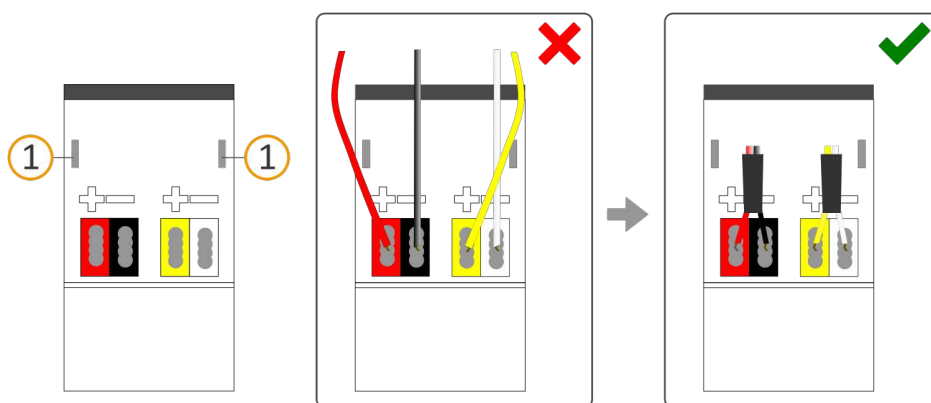

Figure 12: Cable routing
- a. Route all cables to the back. The openings for fastening the cover cap (see figure 12, item 1) must be clear. All cables must be between the openings.